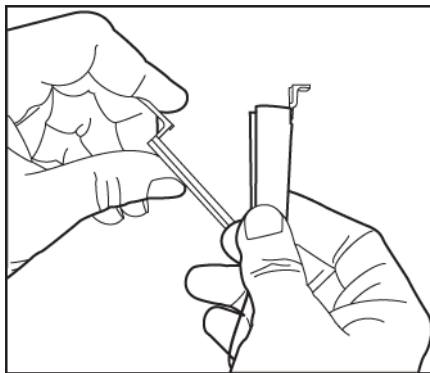

Fig. 5 Remove the cover from the disposable probe
- 3 When ready to attach the probe, remove it from its sterile packing. Remove the cover from the disposable probe connector as shown (Figure 5).